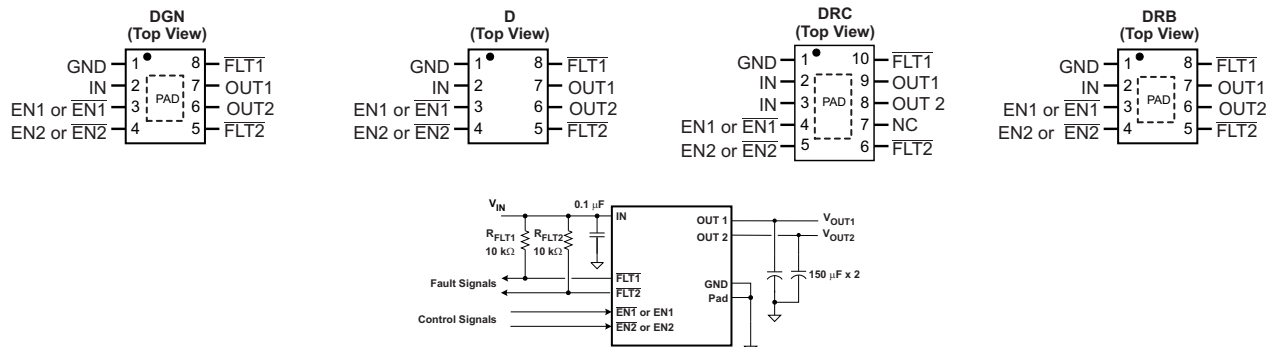

Figure 1. TYPICAL APPLICATION
- (1) Absolute maximum ratings apply over recommended junction temperature range.
- (2) All voltages are with respect to GND unless otherwise noted.
- (3) See INPUT AND OUTPUT CAPACITANCE section.
- (4) VOUT was surged on a PCB with input and output bypassing per Figure 1 (except input capacitor was 22 μF) with no device failure.